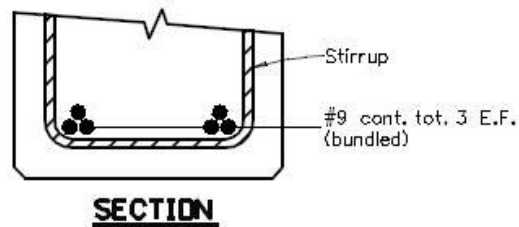

Figure 4.9-2 Bundled Bars in Section
Bundled bars are shown in a Section View in Figure 4.9-2.
- B) Stirrups and other bars shown in profile shall be drawn with a single bold line at scales below $\frac{1}{2}'' = 1'$. At scales $\frac{1}{2}'' = 1'$ and larger, double line representation shall be used. Hatching or solid representation may be used to clarify the detail. Bar bends shall be drawn to scale with the correct bend radii. See fig. 4.9-2 for example.